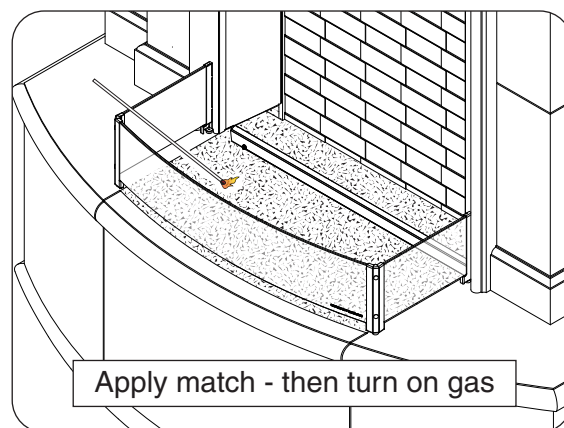

Fig. 37-1 Lighting burner
3. Light a long-stem match or a long-necked butane lighter, and place the flame against the surface of the decorative media near the burner (Fig. 37-1).